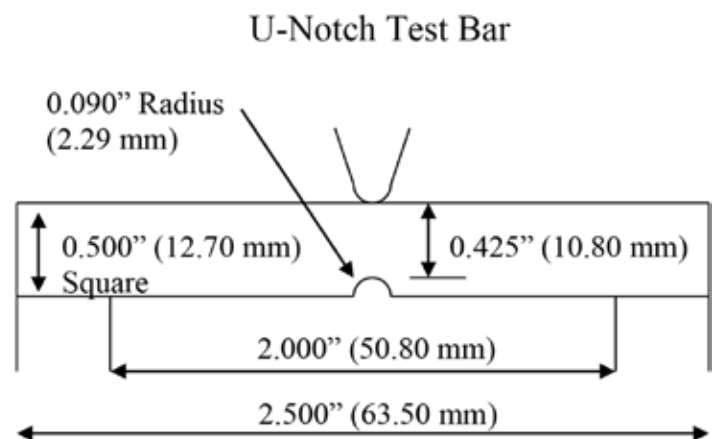

Figure 2
The dimensions of the U-Notch bar are shown in Figure 2. The steel grades used were 8615, 8620, 8630, 8640, 4320, and 9310. The bars were tested in the as-quenched (AQ) condition as well as with a 350°F, 600°F, 850°F, and 1,100°F temper. These samples were intended to represent the properties of the core and transition between the case and core.